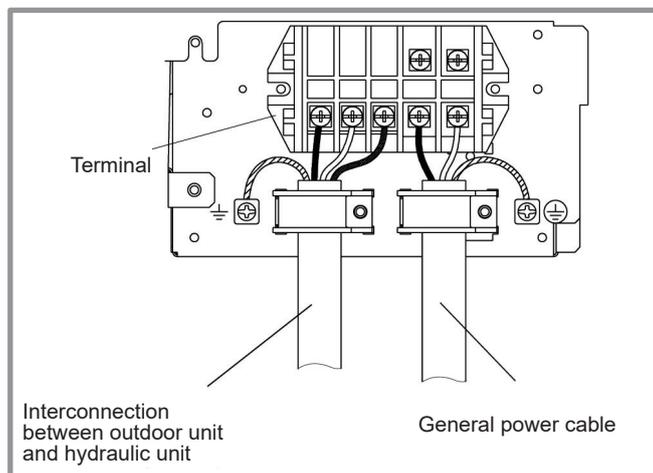

figure 34 - Connections to outdoor unit's terminal block
- Make the connections according to the diagram (figure 34).